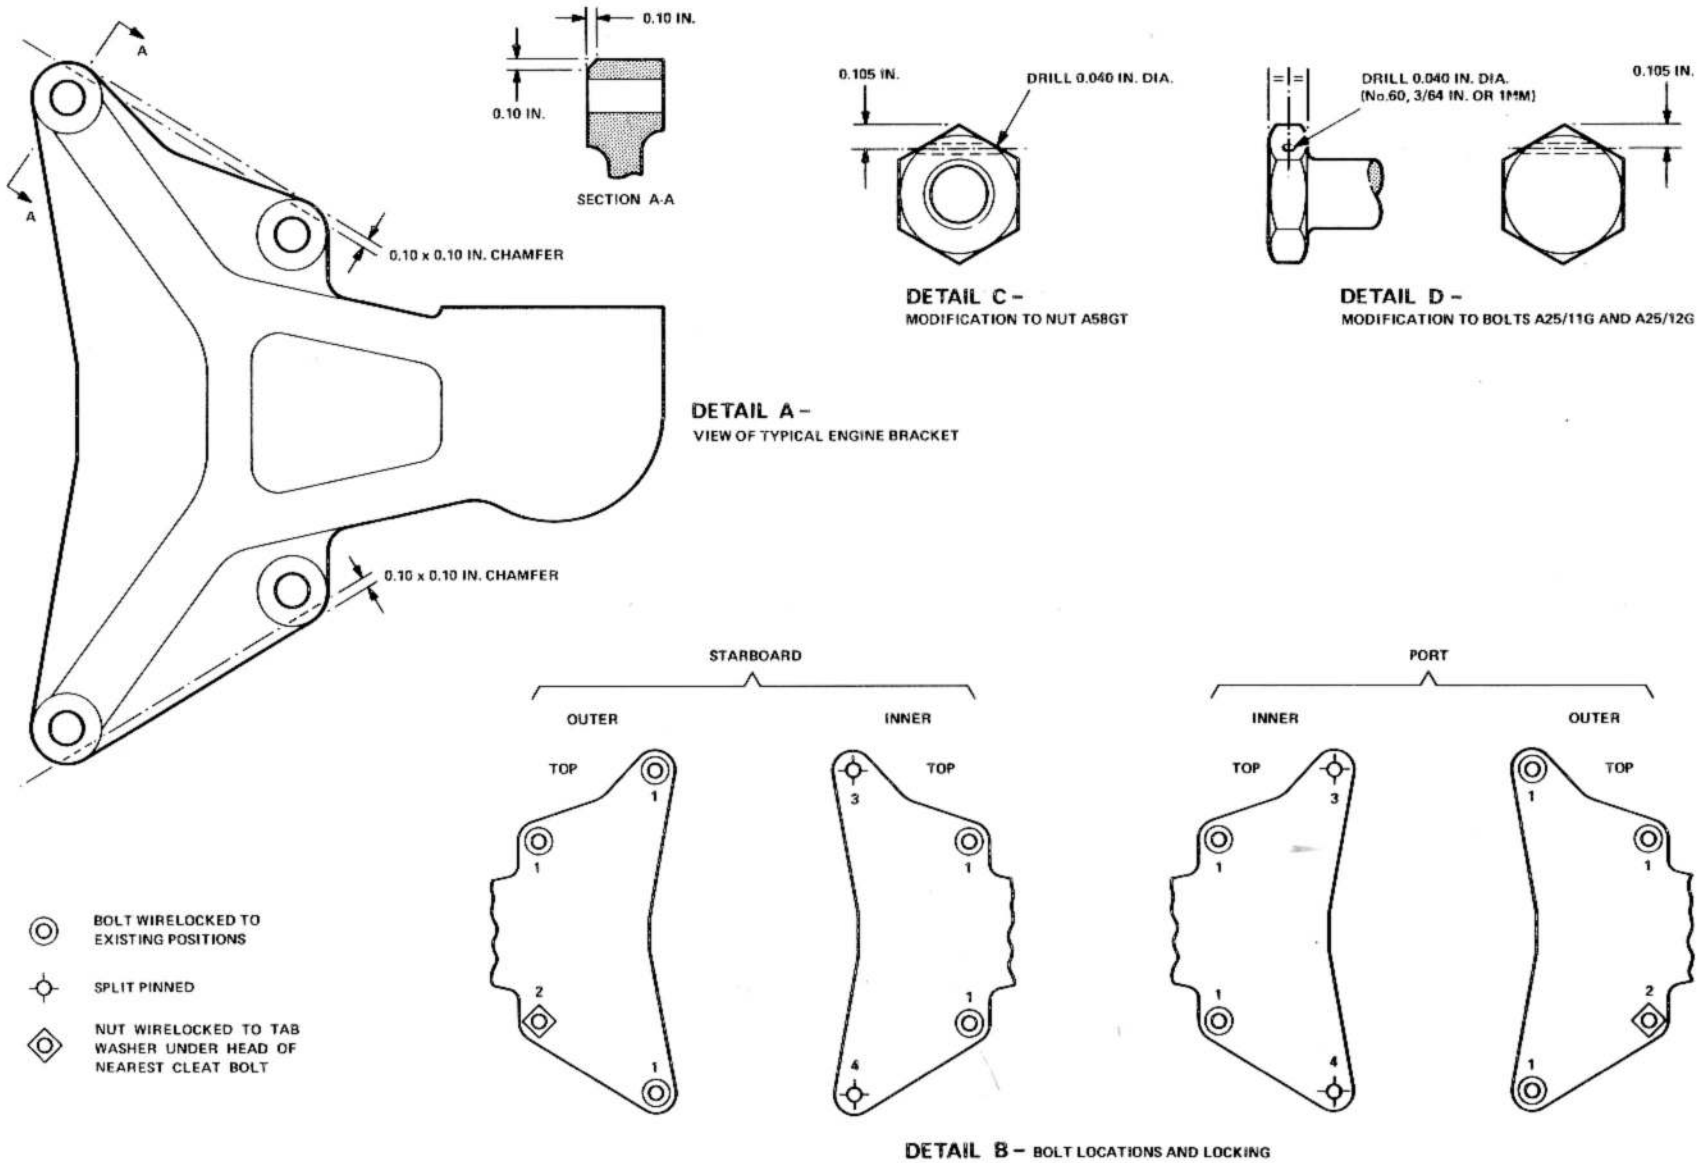

FIG. 1A. ENGINE FORWARD MOUNTING BRACKETS
It is of paramount importance that fouling between the rib structure and the cup brackets be eliminated. The cup brackets should be to STI/Canberra/583 standard as shown in fig.1A.
3. At Location 2 nuts A58/GT (28M/4199618) drilled for wirelocking in accordance with Detail C of fig.1A, are to be used.